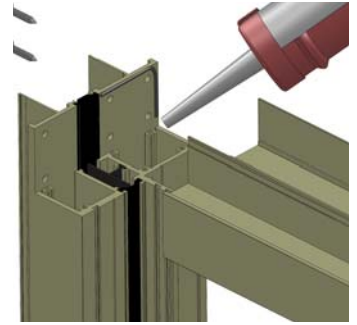

Figure 7
3. Seal frame and vent joints completely with compatible sealant. **IMPORTANT:** Apply a heavy bead of sealant to the interior side of the mounting flange (nail-on) where the door frame jamb and sill join. Sealant must cover the entire joint (from the flange to the inside leg of the door) and extend 1 1/2" up the jamb and along the sill. (See Fig. 7).